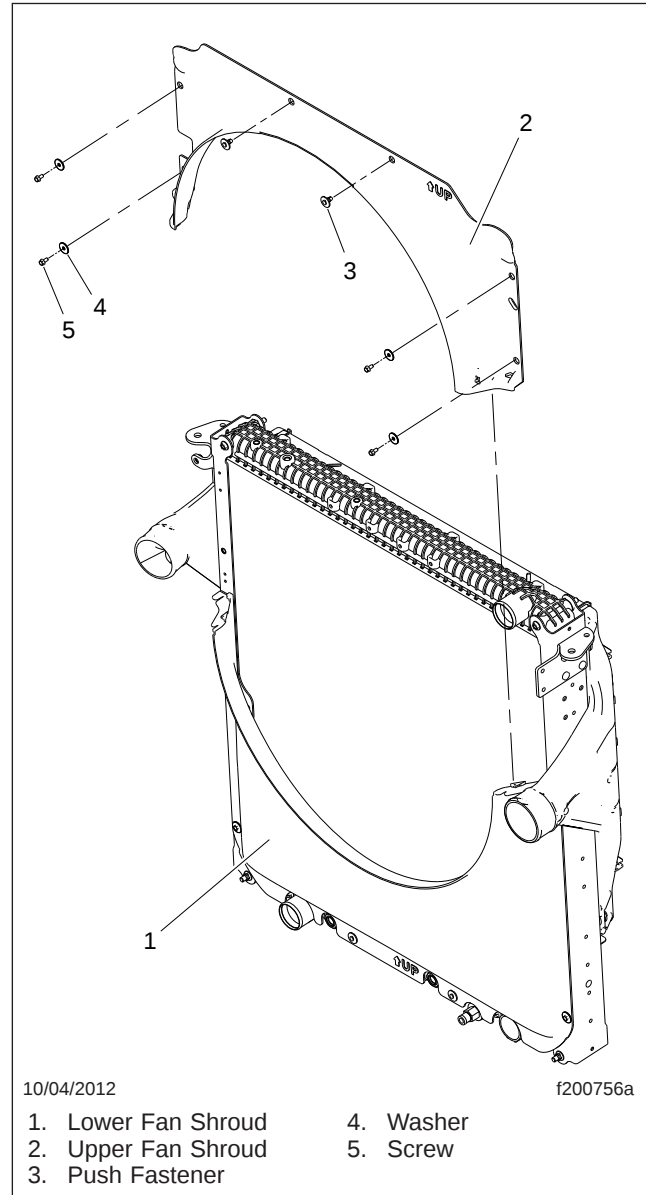

Fig. 13, Fan Shroud Installation
13. Remove the upper fan shroud. See Fig. 13.
19. Remove the lower fan shroud from the radiator. See Fig. 13.
27. Install the fan shroud on the new radiator. See Fig. 13.